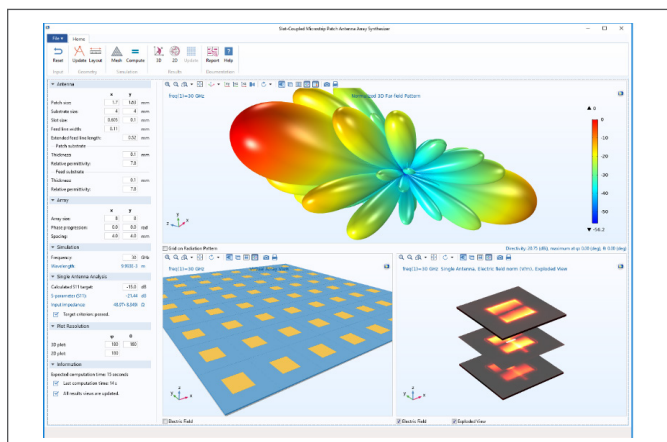

Figure 6: Simulation app for quickly estimating the far-field pattern of a phased array antenna using a full-wave single antenna simulation and array factor.
Simulation provides virtual analysis platforms for a wide range of test scenarios. However, learning how to use electromagnetics simulation software may not be the best use of time for everyone in an organization. Limited training and access to simulation software may restrict usage of electromagnetics simulation tools to a small set of expert users. Completed numerical EMI and EMC test models may frequently need new input parameters in order to adjust to a real-world test environment’s variations. The need for updating boundary conditions, mesh, and postprocessing settings outside of the simulation group can cause unexpected delays in the development cycle. The good news is that simulation software has evolved to accommodate specialists who are not dedicated simulation engineers. The simulation models can be converted to easy-to-use apps (*Figure 6*). An app has a straightforward, specialized user interface (UI) and can be shared with colleagues and customers through existing web browsers or as a standalone executable file. Such standalone apps do not require purchasing extra software licenses and can run regardless of the operating system. A large number of people involved in EMI test projects can easily access the virtual test kit provided by an app and optimize the product without learning how to use the software behind the curtain.